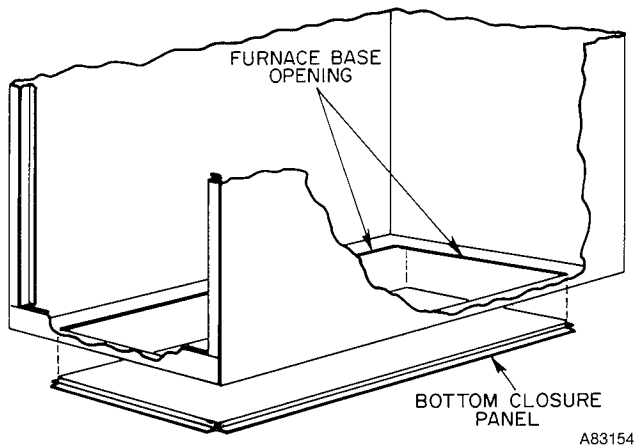

Figure 9—Installing Bottom Closure Panel
2. With furnace either tilted or raised, install panel in opening from bottom of furnace. See Figure 9.